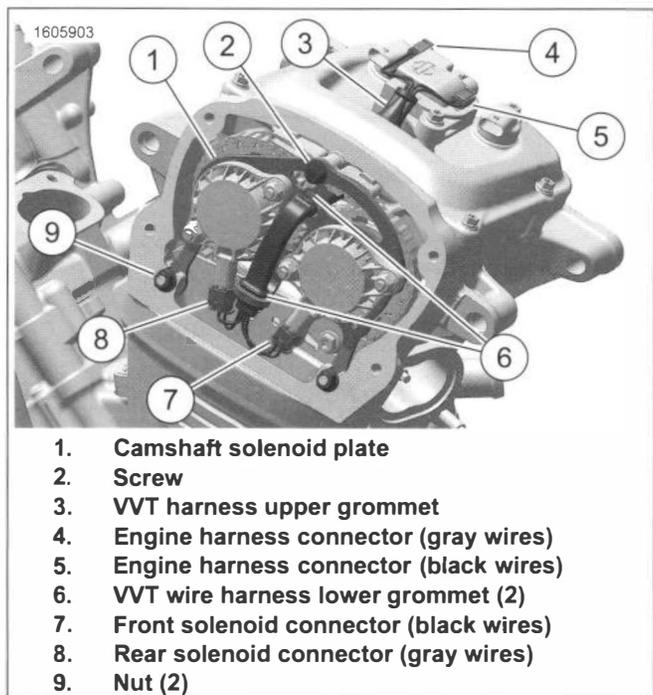

Figure 8-90. Phaser Harness and Camshaft Solenoid Plate
6. See Figure 8-90. Route VVT harness through camshaft solenoid plate (1).
- a. Install screw (2).
- b. Install nuts (9).
- See Figure 8-90. Make sure wires between solenoid connectors (7, 8) and harness lower grommet (6) do not rub on edge of plate or get pinched by cam cover, once installed.
9. Secure wire harness grommets (6) to camshaft solenoid plate (1).
- a. Connector with black wires (7) to front phaser solenoid.
- b. Connector with gray wires (8) to rear phaser solenoid.